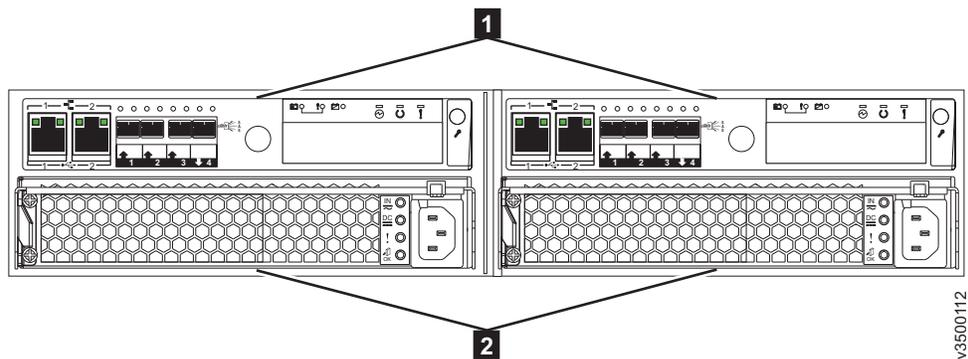
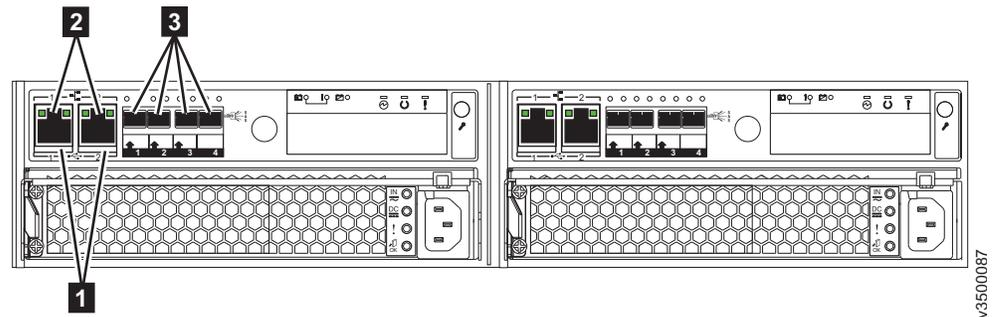

Figure 1. Rear view of a Storwize V3700 control enclosure
Figure 2. Data ports in the rear of the Storwize V3700 control enclosure
Figure 1 shows the rear view of a control enclosure and identifies the location of the power supply units and node canisters.
Note: Figure 1 and Figure 2 on page 7 show an enclosure that is equipped with alternating current (AC) power supplies. Some enclosure enclosure models have direct current (DC) power supplies instead (see “Reviewing your packing slip” on page 5 for the model numbers). For more information about DC power supply units, see “Direct current power supply units” on page 10.
Note: Figure 1 shows the node canisters in their initial configuration, with no host interface adapter options installed.
Figure 2 shows the rear view of a Storwize V3700 control enclosure and identifies the location of the ports.